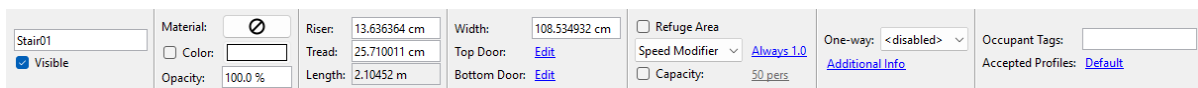

Figure 64. Stair property panel
Stairs have a number of properties that control their geometry and behavior of occupants that travel on them. When a stair is selected, these properties can be seen in the stair’s property panel as shown in Figure 64.
2. Select the stair (or several) so its properties are visible in the property panel as shown in Figure 64.